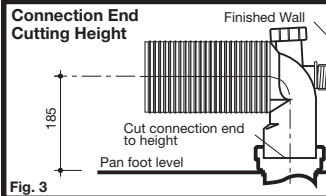

Fig. 3
- 4- Fit connector to pan connector and determine cutting length of connection end to provide standard seal and centre height of 185mm. Allow 10mm for mortar bedding if required. Remove and cut to length, as detailed in Fig. 3.